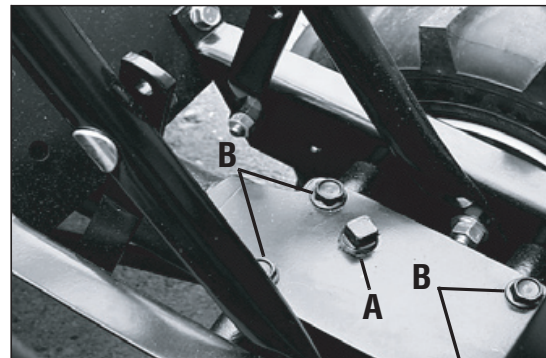

Figure 5-2: Remove oil fill plug (A) to check gear oil level and to add gear oil. Remove four cover screws (B) to drain gear oil.
3. Remove the oil fill plug (A, Fig. 5-2) from the transmission housing and look inside the oil fill hole to locate the main drive shaft situated below the hole.
3. Remove four screws (B, Figure 5-2) and remove transmission cover and gasket.